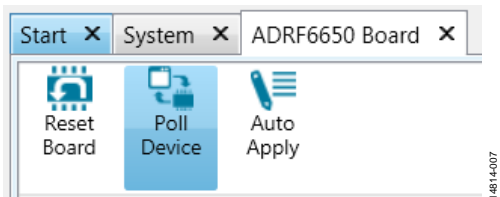
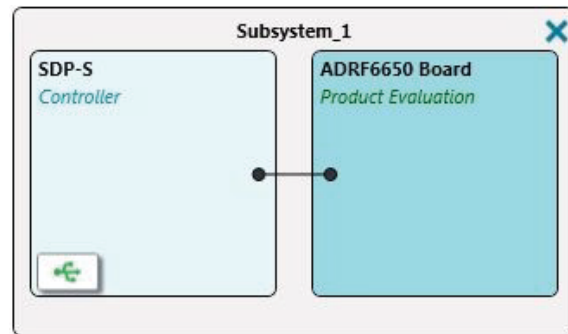

Figure 7. ADRF6650 Board Tab
Figure 17. ADRF6650 ACE GUI System Tab
3. From the **ADRF6650 Board** tab, double-click the ADRF6650 icon to open the **ADRF6650 Board** tab (see Figure 7). The **ADRF6650 Board** tab allows the user to configure the ADRF6650 in any desired configuration.
The ADRF6650 Board tab includes the **Reset Board** button, the **Poll Device** button, and the **Auto Apply** button (see Figure 7).
If the user encounters an error while configuring the device, check the USB connectivity of the evaluation board under the **System** tab (see Figure 7). Figure 17 shows the **Subsystem_1** window where the user can observe the connectivity of the **SDP-S** board and the **ADRF6650-EVALZ**.